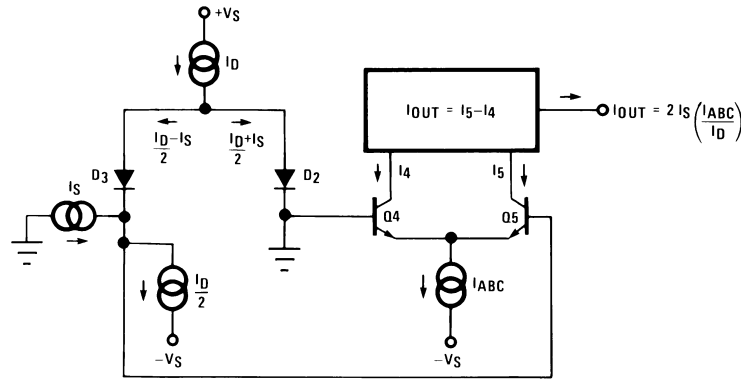

FIGURE 1. Linearizing Diodes
For differential voltages greater than a few millivolts, Equation (3) becomes less valid and the transconductance becomes increasingly nonlinear. Figure 1 demonstrates how the internal diodes can linearize the transfer function of the amplifier. For convenience assume the diodes are biased with current sources and the input signal is in the form of current I_S . Since the sum of I_4 and I_5 is I_{ABC} and the difference is I_{OUT} , currents I_4 and I_5 can be written as follows: